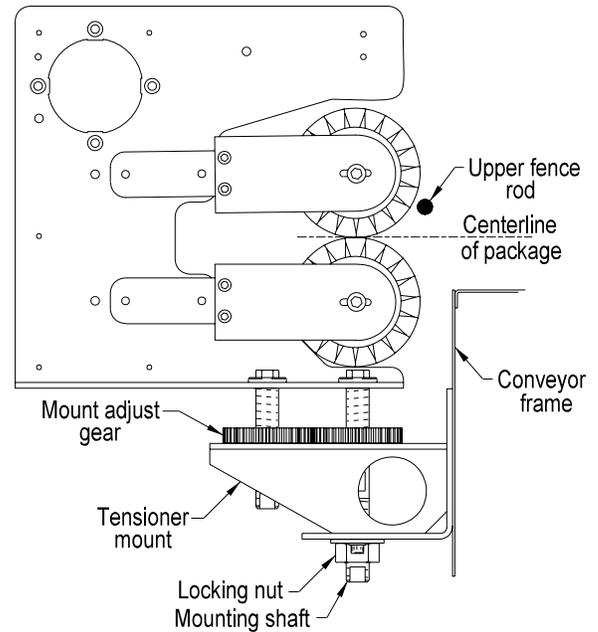

Figure 2.3
5. Check to see that the point at which the brushes mesh together corresponds to the horizontal center line of the package to be closed. Adjust the height of the bag tensioner by first loosening the mounting nut and then turning the mount adjust gears (Figure 2.3) in the desired direction to raise or lower the tensioner. After the proper tensioner height is achieved, tighten the mounting nut to the tensioner mounting shaft.
6. Adjust the upper fence rod until its outside edge lines up vertically with the side of the conveyor frame (Figure 2.3).